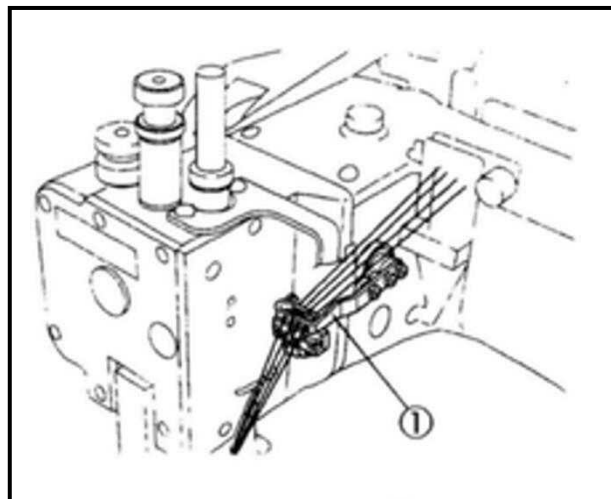

Fig.36
- (1) 抬线架①转到最低位置。(Fig.36)
- (1) Position the needle thread take-up① at the lowest point. (Fig.36)